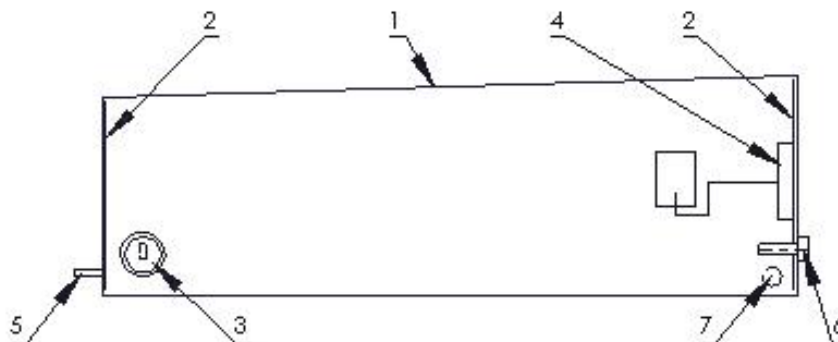

Fig. 4-4
Fuel tanks (Fig. 4-4) are of integrated all-metal structure consisting of aluminum sheet metal skin (1) and four ribs (2). There are on each tank filler neck (3), fuel level sender (4), ventilating tube (5), finger screen (6) and drain valve (7).